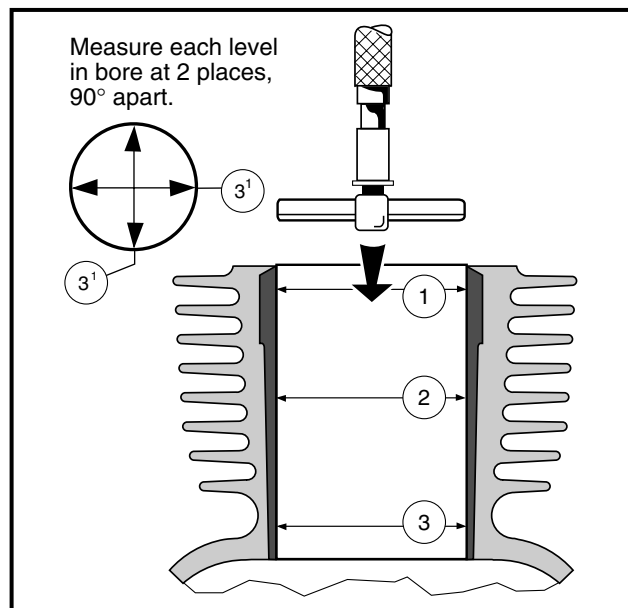

Figure 2-53 Measure Cylinder Bore
2. Make the first measurement parallel with the crankshaft and the second at right angles to the crankshaft at three different locations in the bore. The first measurement location is 0.4 inch (10 mm) from the top of the cylinder. The second location is in the center or 2.4 inches (60 mm) from the top, and the third location is 0.3 (8 mm) from the bottom of the cylinder or bottom of ring travel. **See locations 1, 2, and 3 (Figure 2-53, Page 2-26).**